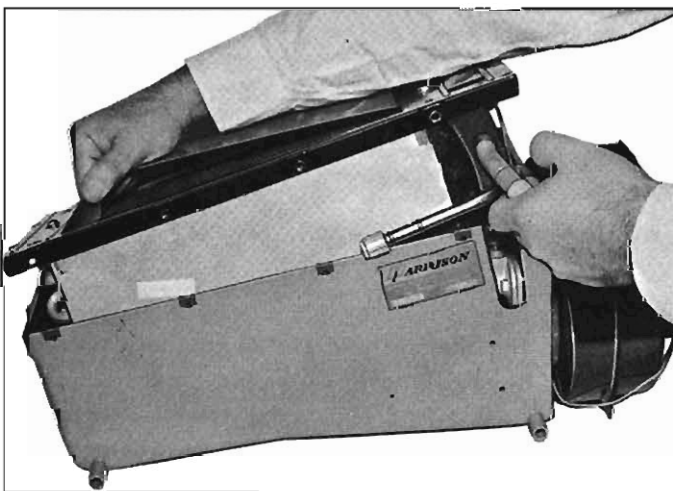

Fig. 11-24—Removing Evaporator Core
2. Lift the evaporator core assembly (including cover and mounting brackets) out of the evaporator case (fig. 11-24).